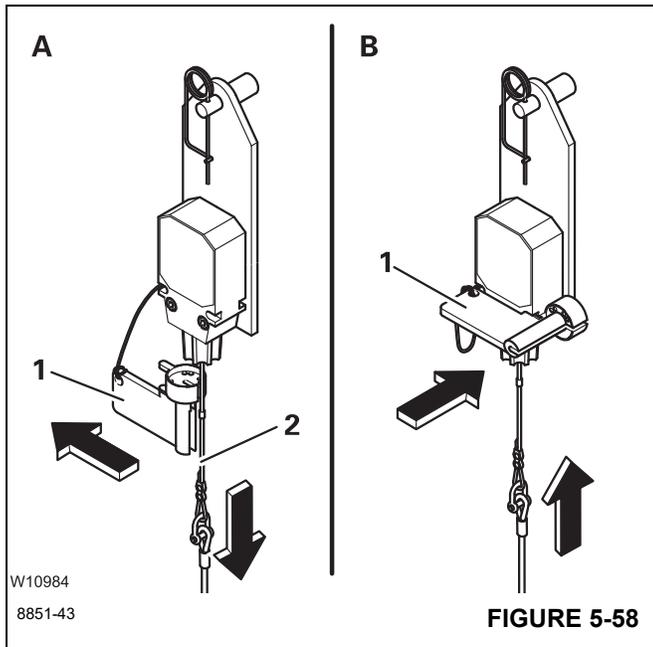

FIGURE 5-58
- (A), (Figure 5-58) – Pull the rope (2) down and take off the cap (1) – the locking is released.
- (B), (Figure 5-58) – Stow the cap (1) onto the anti-two block switch.